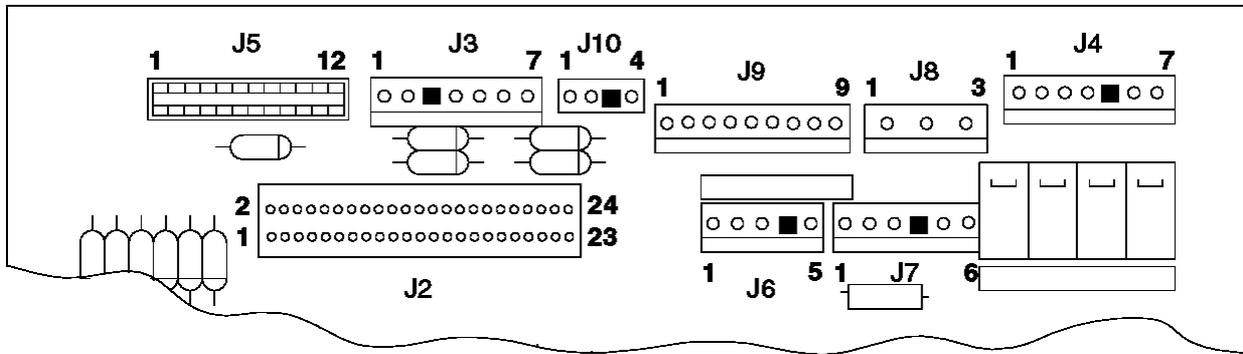

Figure 6-11. Printer Card Connections
- Measure for +5 V DC between J8-2 (negative) and J8-1 (positive) on the printer card. See Figure 6-11.